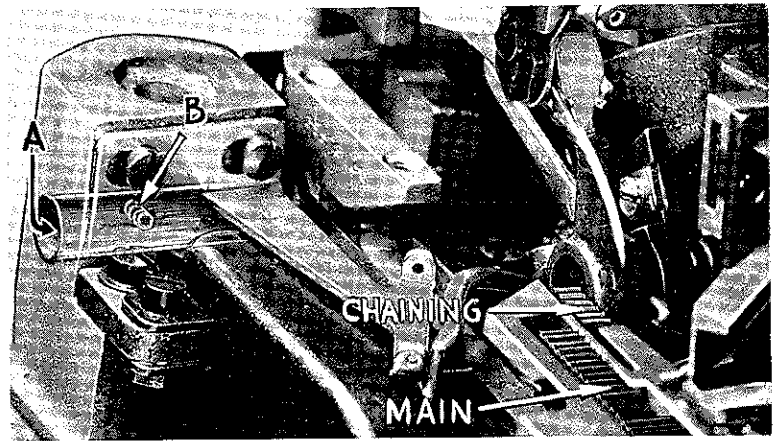

Fig. 11
Feed Dogs should be leveled with throat plate surface by rotating feed tilting adjusting pin (A, Fig. 11). This pin raises or lowers the back end of feed bar. Feed dogs should be set level at the time teeth first appear above throat plate. Screw (B) locks feed tilting adjusting pin in place. Now set feed dogs at highest point of travel: main feed dog teeth set  $3/64$  inch above throat plate; and chaining feed dog teeth set about flush with surface of throat plate.